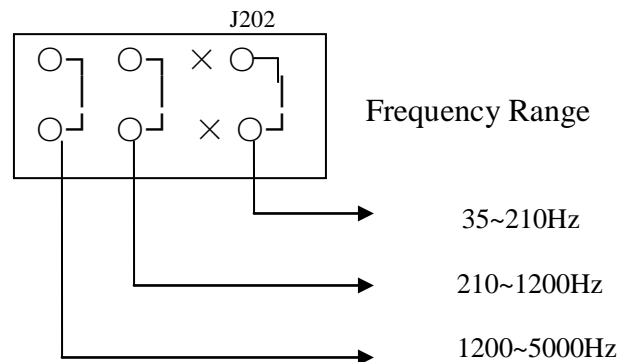

Fig.8
(3) As per f_{max} calculated, to select a segment; then to insert the “hopping plug” into the related segment as shown on Fig.8